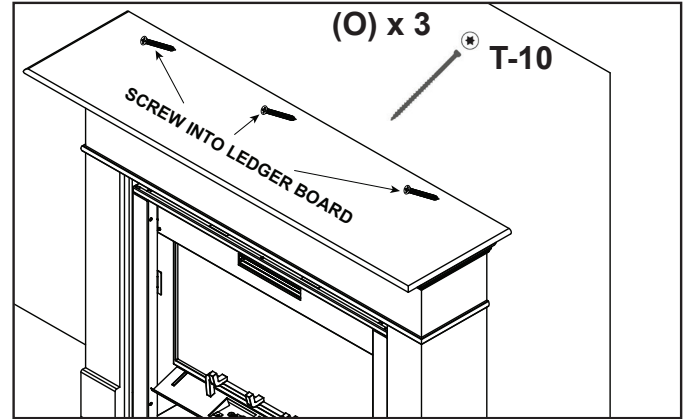

Figure 7
2. Secure mantel to ledger board using three 3" screws (O) through the top edge of the mantel. Fill holes with appropriate fill if desired. See Figure 7.